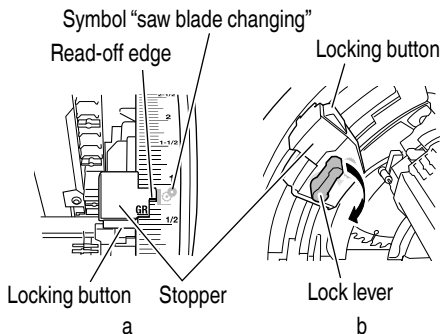
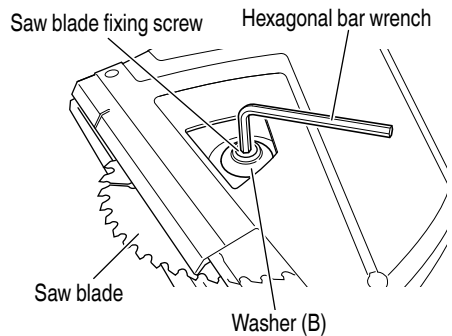

Fig. 13
Fig. 14
- (1) Thoroughly remove any sawdust which has accumulated on the spindle, screw and washers.
- (2) Press the locking button and move.
- (3) Move in such a way that the read-off edge is pointed to the symbol "saw blade changing". (Fig. 13-a)
- (4) Release the locking button again.
- (5) Turn the lock lever clockwise up to the stop. (Fig. 13-b)
- (6) Push the lock-off button forwards and lower the motor section a little. Release the lock-off button again.
- (7) Push the motor section down until it locks in place at the stop.
- (8) Turn the saw spindle slowly with the hexagonal bar wrench in the saw blade fixing screw until the lock catches.
- (9) Unscrew the saw blade fixing screw in a clockwise direction and remove the washer (B). Remove the saw blade. (Fig. 14)